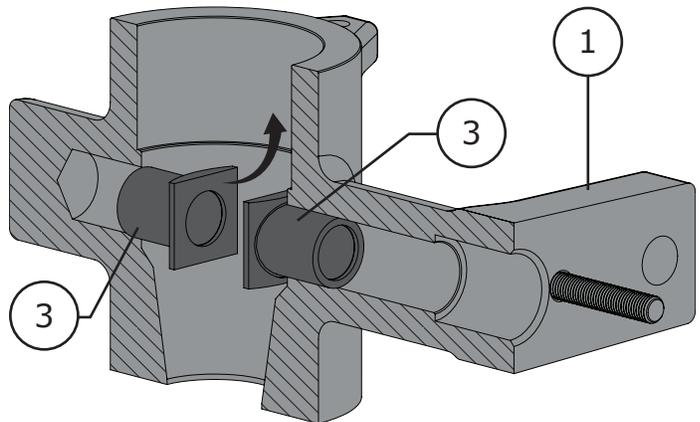

Figure 28 Old Style 1 & 1-1/2 Inch Outboard Bearing Removal
- 1 Pull the outboard bearing (Key 3) from the follower shaft bore. Use a bearing puller if necessary. Refer to Figure 28.